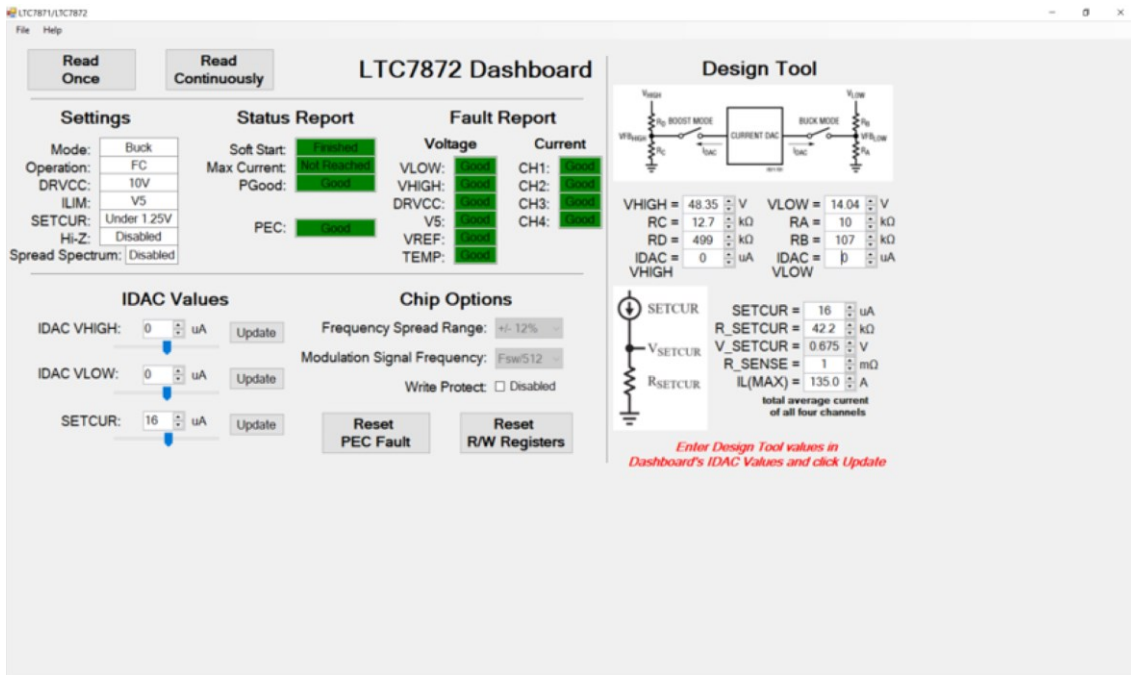

Figure 4. LTC7872 QuikEval GUI
16. Start QuikEval on the host computer. The LTC7872 QuikEval GUI is shown in Figure 4.